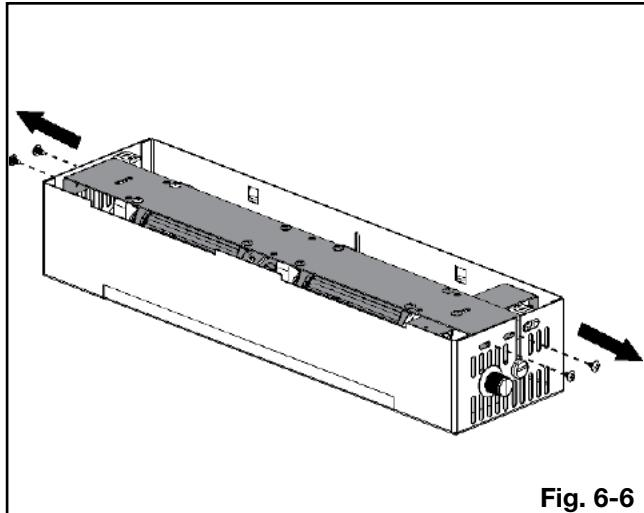

Fig. 6-6
- C. Remove the 4 screws securing the retainer to the blower housing (**Fig. 6-6**). Slide blowers (attached to retainer) out of the housing deflectors and lift them up. Set screws and blowers (attached to retainer) aside.